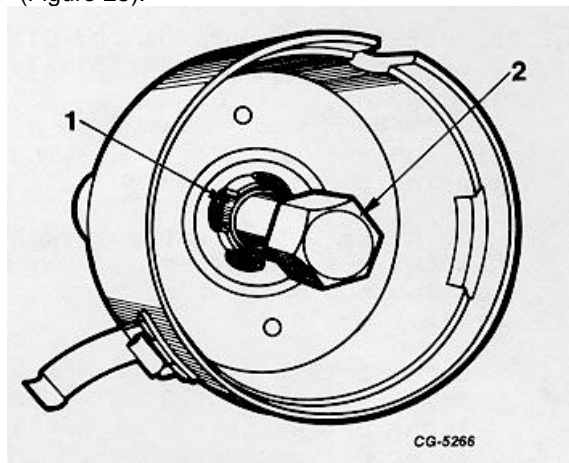

Fig. 25. Bushing Remover SE-1955-5
3. Install bushing remover SE-1955-5 in upper bushing (Figure 25).